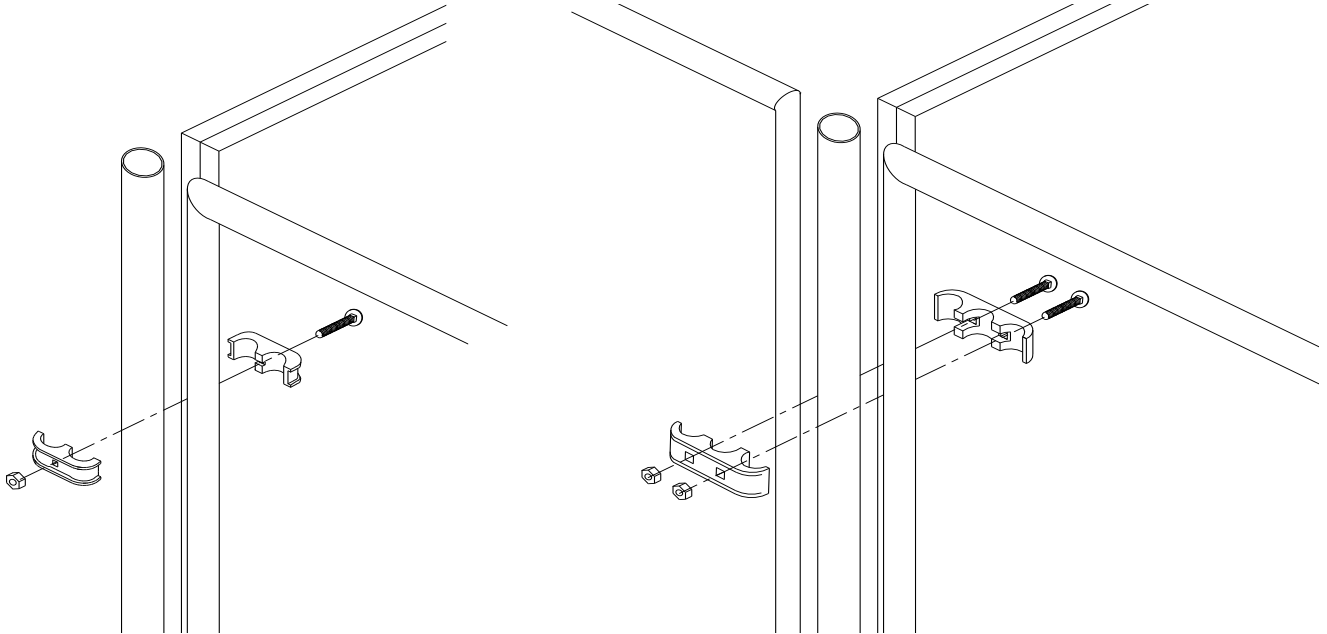

Figure 11
2. Attach the gate / stall front on the front of each run between the filler pipes with two clamps on each side using the 5/16" x 1-1/2" bolts and nuts provided as shown in Figure 11. Note: It takes two halves to make up one clamp. Attach gates / stall fronts to outside division panels using "panel clamps". All other gates / stall fronts will use "triple clamps". **To help ensure the safety of the animals the round head of the bolt should be assembled toward the inside of the run.** Note: The triple clamps attach two gates / stall fronts together. Therefore, you will have to hang two gates / stall fronts at the same time (see Figure 12).